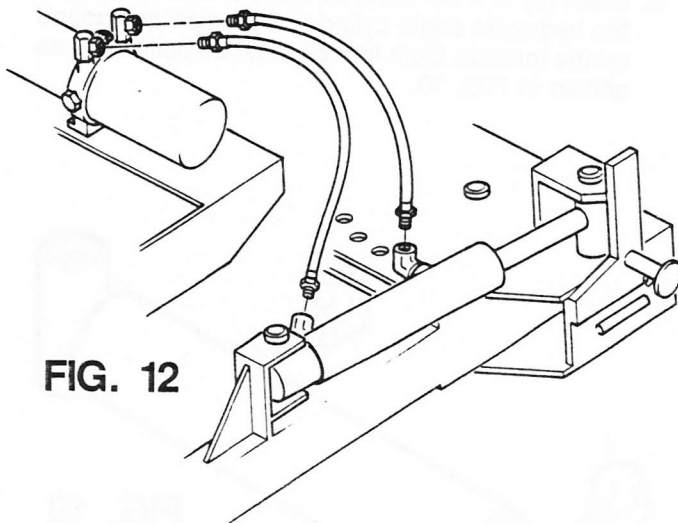

FIG. 12
8. Connect the $\frac{1}{4}$ x 29" hydraulic hoses from the hydraulic power unit to the angle cylinder. Connect the swivel ends of the hoses to the 90° elbows in the angle cylinder. Use pipe compound on the threads. See FIG. 12.
9. Connect the hose from the rear port of the angle cylinder to the S.U. in the rear port of the hydraulic power unit. Connect the hose from the front port of the angle cylinder to the S.U. in the front port of the hydraulic power unit. Use pipe compound on the threads. As shown in FIG. 12. Tighten all hydraulic fittings securely.